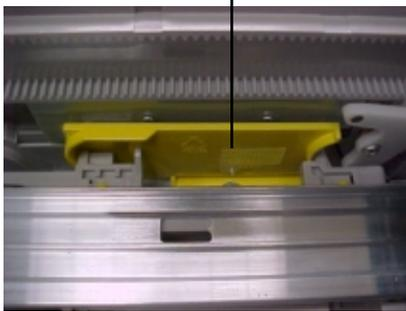

Figure 11
2. See Figure 11. Between each note-guide assembly and the side-wall of the cassette there is an adjustment bracket. Extensions from the support assembly rest within curved guides in this bracket.